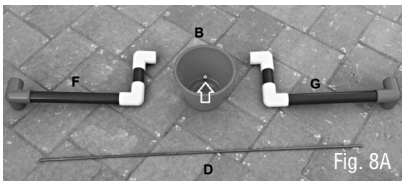

Fig. 8A
8. Assemble the Dump Bucket (Fig. 8A - 8D).
Layout the components as shown, ensuring the yellow and red elbows are arranged properly. In addition, ensure the counter weight, inside the bucket (identified by the arrow), is in the correct position (Fig. 8A).